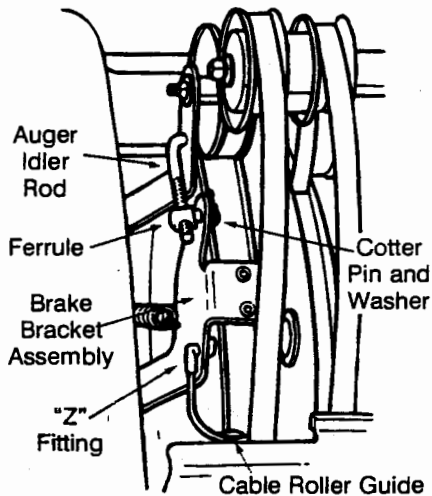

FIGURE 16
Periodic adjustment of the belt tension may be required due to normal stretch and wear on the belt. Increase belt tension if the augers hesitate while the augers are engaged or decrease tension if the the augers continue to turn when the augers are disengaged. To adjust, disconnect ferrule from the brake bracket assembly (Figure 16) and thread ferrule in (towards idler) to increase tension on belt, out to decrease tension.
- Remove the cotter pin and washer from the ferrule in order to disconnect the auger idler rod from the brake bracket assembly as shown in Figure 16.
- Pull the brake bracket assembly towards the cable guide roller and unhook the auger cable "Z" fitting. See Figure 16.
- Attach the "Z" fitting of the cable into the brake bracket assembly. See Figure 16.